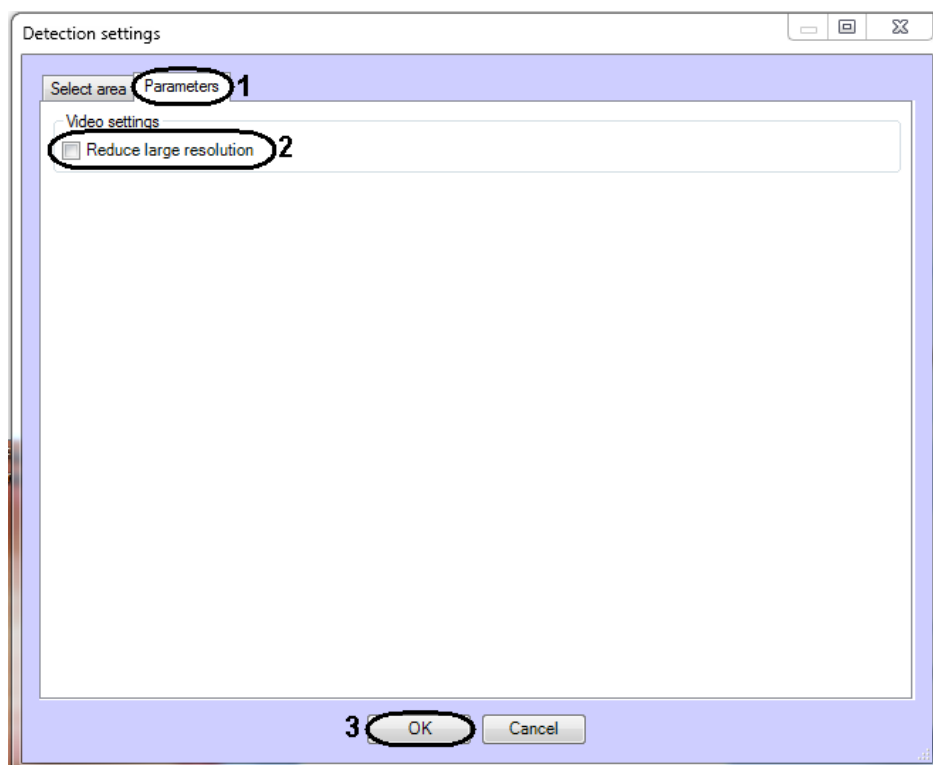

Fig. 6.2—6 Configuring the People counter detection module parameters
5.2. Set the **Reduce large resolution** checkbox to create and process the new frame consist of even lines of initial frame (see Fig. 6.2—6, 2).
6. Click **OK** (see Fig. 6.2—6, 3).